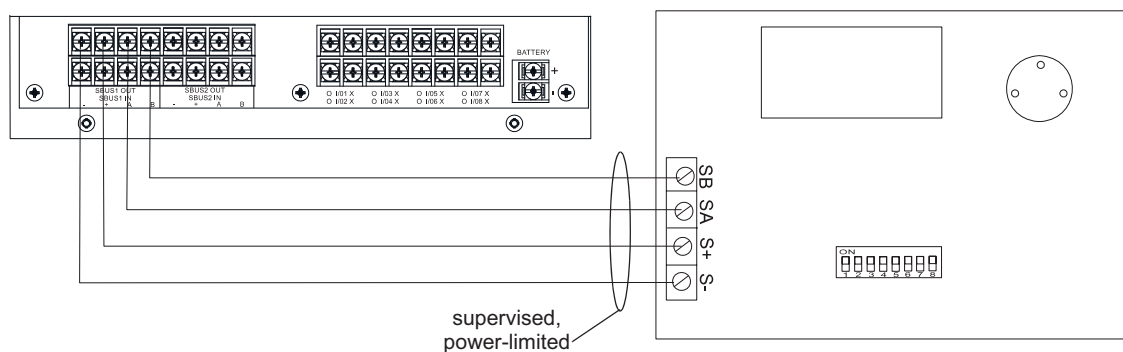

Figure 4.24 RA-1000 Connection to the Panel
3. Connect the RA-1000 to the panel (see Figure 4.24).
4. After the annunciator wiring to the panel has been completed (refer to Figure 4.24), replace the electronic assembly in the back box. Place the bezel over the back box and tighten the set screws on the bezel.